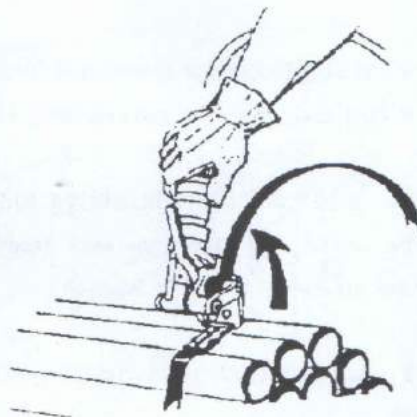

图6 (Fig6)
5.如图6所示,将拉紧机做向上垂直位置的倾斜动作,以折断钢带。钢带折断后即将调速阀做逆时针方向旋转到“停止”位置上。
5.Break the steel strap by sloping the tensioner vertically.Then move speed control valve anticlockwise to the position of “stop” See Fig. 6.